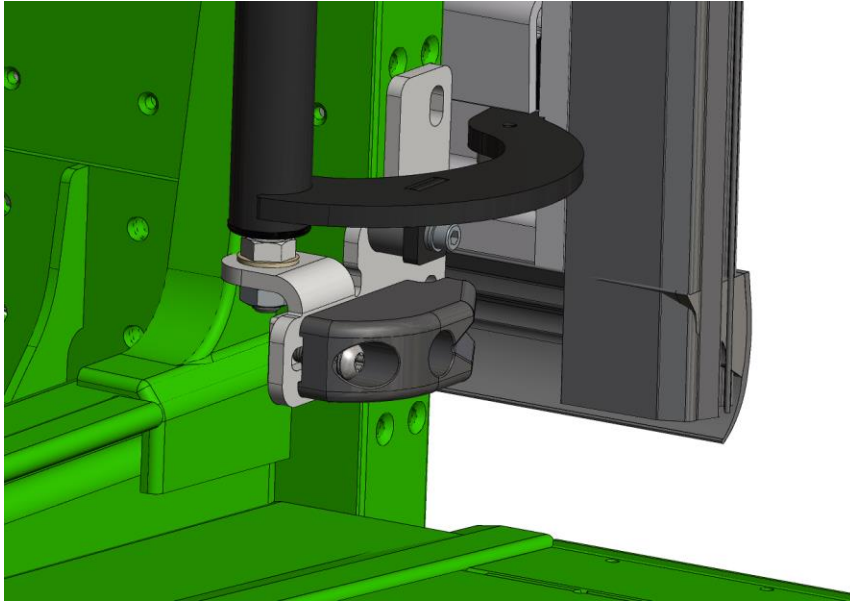

Figure 1.5: Bottom support
1.	Check if the door leaves are parallel to the step wedge when fully open (without pressure, see figure 1.5). When closed, the door leaves can be put straight by the catch wedge, but should be straight on their own. Adjust the door leaf when not straight at fully open.